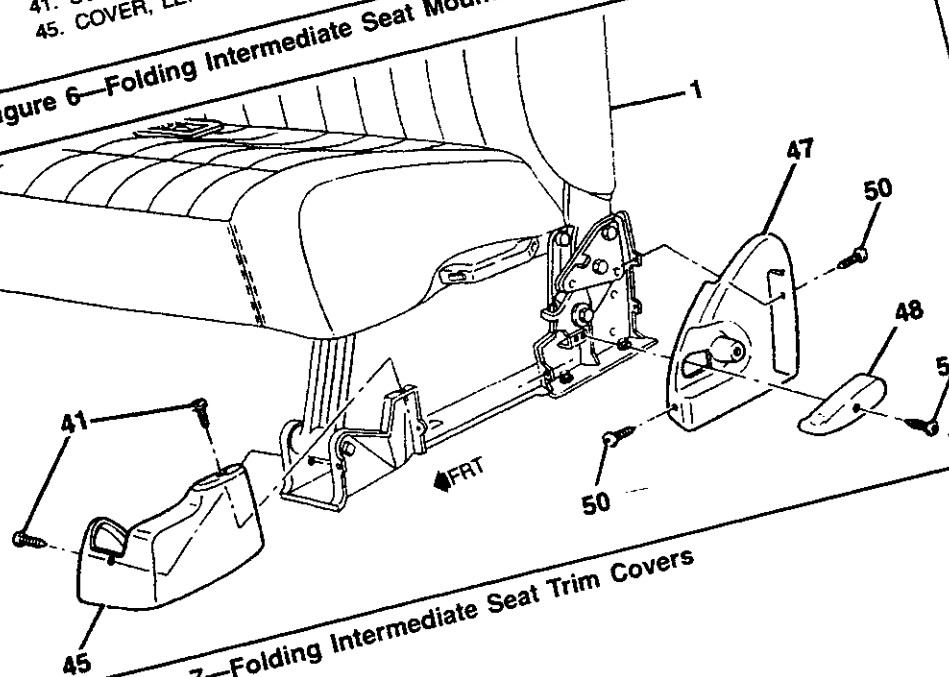

Figure 7—Folding Intermediate Seat Trim Covers
3. Front and rear leg trim covers (figure 7).